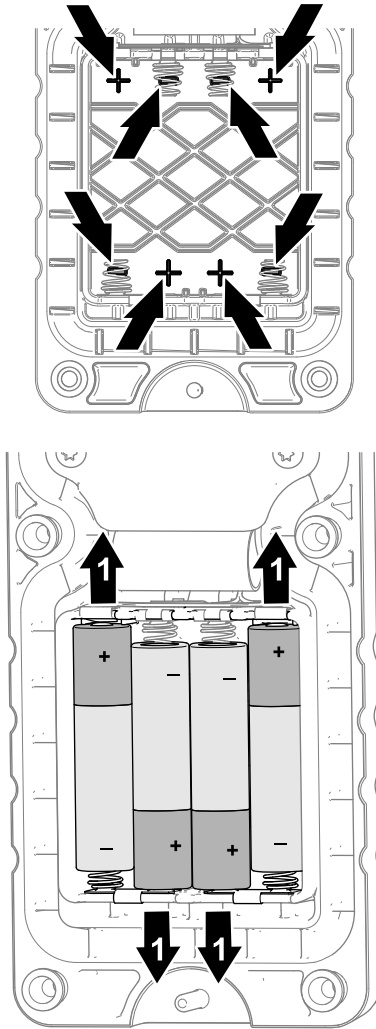

Figure 8
2. Observing battery polarity as shown in Figure 8, insert the new batteries into the terminal cradles.
Note: To avoid damaging the terminal cradles when installing batteries, observe proper polarity markings (Figure 8) that are embossed onto the